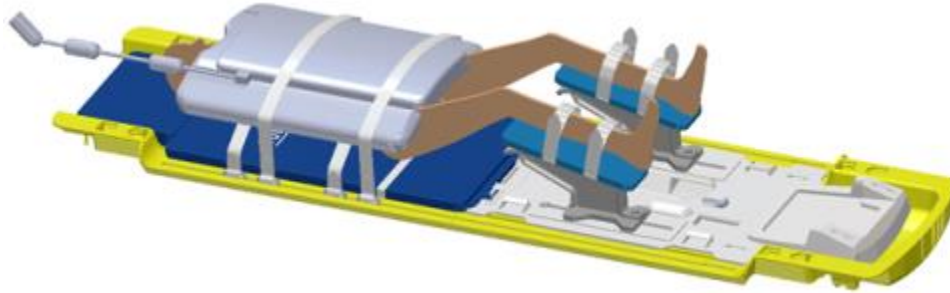

Figure 25: Placement of the anterior imaging coil
2. MRI Technologist: Strap the anterior imaging coil over the patient's pelvis and arms. The coil should cover the prostate, without interfering with the travel of the Positioning System (*Figure 25*).